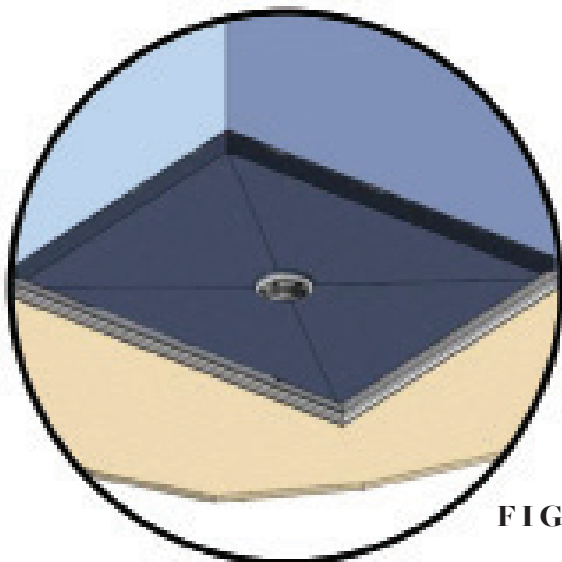

FIG 2.
- Ensure inside face of the upstand is flush with the Gib (FIG 2).
- When panels are correctly aligned, remove panel 1 (FIG 2), and run a thick continuous line of silicone down the inside of the wall channel (FIG 13) and apply liberally in the floor to wall channel join.